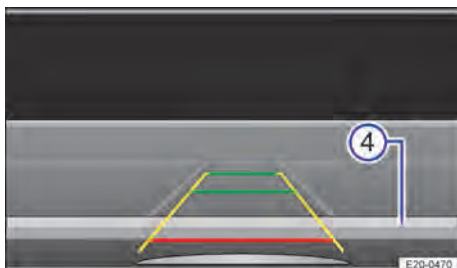

Fig. 117 Infotainment system: aligning vehicle in the parking space.
6. Stop when the red line reaches the rear boundary → Fig. 117 ④.